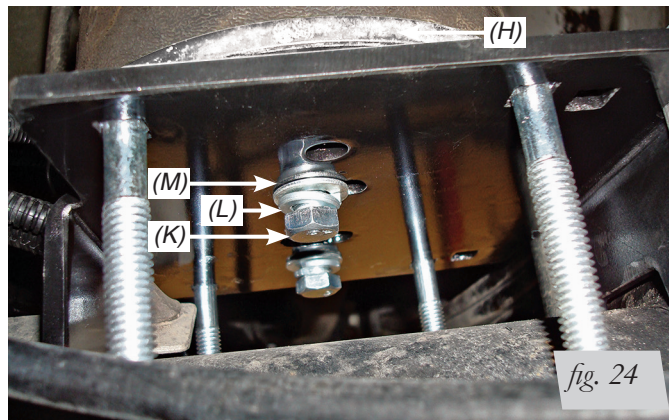

fig. 24
2. Looking below, line up the hole in the roll plate (H) with the bellows and attach using the 3/8 Hex Head bolt (K) lock washer (L) and flat washer (M) (fig. 24). Repeat for the other mounting hole in the bracket. Since it will be hard to torque this bolt, unless using a crows foot wrench adapter, just tighten the hardware securely (no more than 20ftlbs). Repeat for the other side.